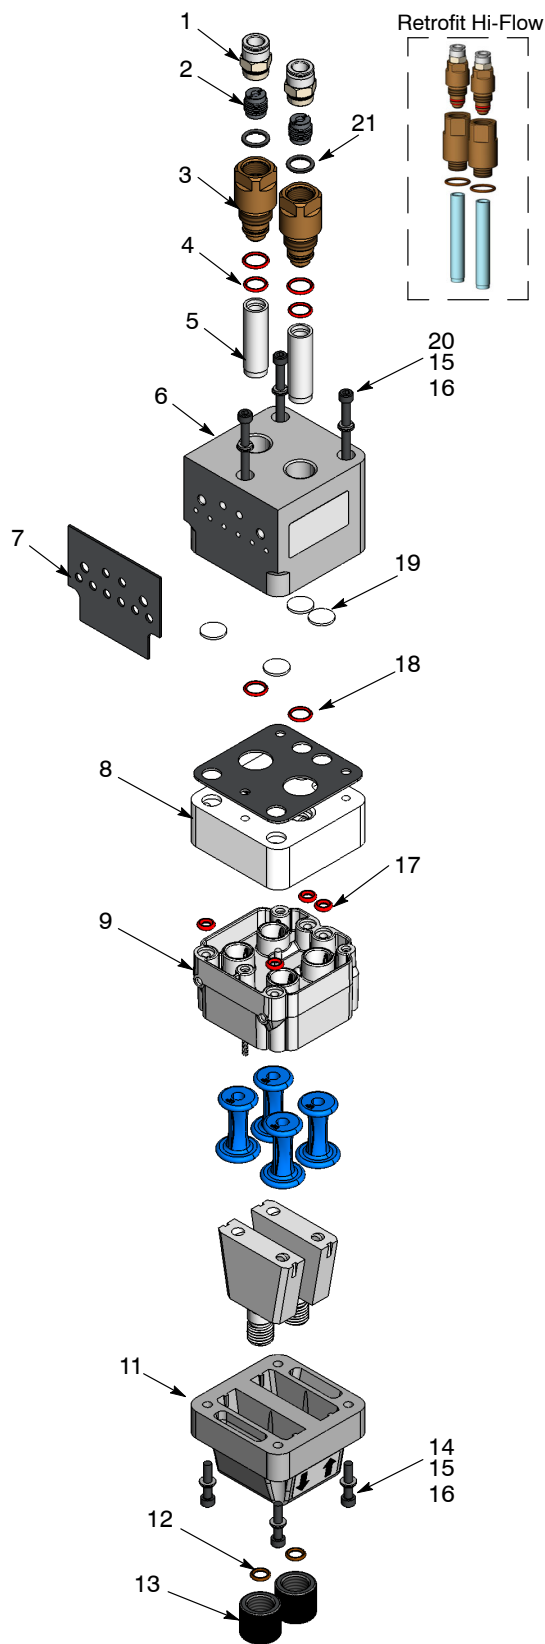
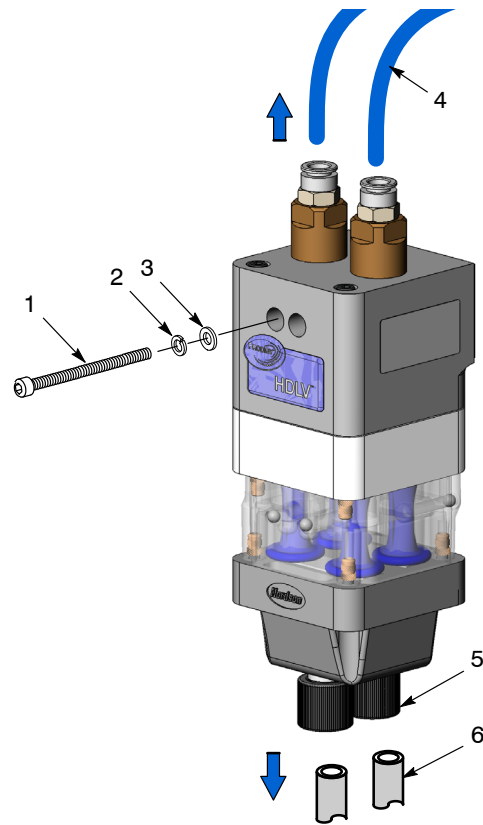

Figure 5 Disassembled Pump (All parts shown exploded for reference)
Figure 9 Reinstalling Pump
1. See Figure 5. Remove the fittings (1) from access plugs (3) to access check valves (2).
2. Remove check valves (2) from access plug using a flat blade screwdriver.
3. Inspect O-rings (21) in access plugs (3). Remove and replace as needed.
**NOTE:** O-rings (21) for inside access plugs (3) must be ordered separately.
4. Replace and tighten the check valves (2) back onto access plugs (3) until they bottom out.
5. Pull the fluidizing tubes (5) off the access plugs (3).
6. Replace lower access plug O-rings (4).
7. Seat the new fluidizing tubes against the lower O-rings (4).
8. Replace gasket (7) on top manifold (6).
9. Replace O-rings (17) in pinch valve manifold (9).
1. See Figure 9. Secure pump to pump panel using two screws (1), lock washers (2), and flat washers (3).
2. Reconnect the purge air lines (4) to the top of the pump.
3. Replace the tube nut O-rings (12) shown in Figure 5.
4. Using the tube nuts (5), reconnect the inlet and outlet powder tubing (6) to the bottom of the pump.